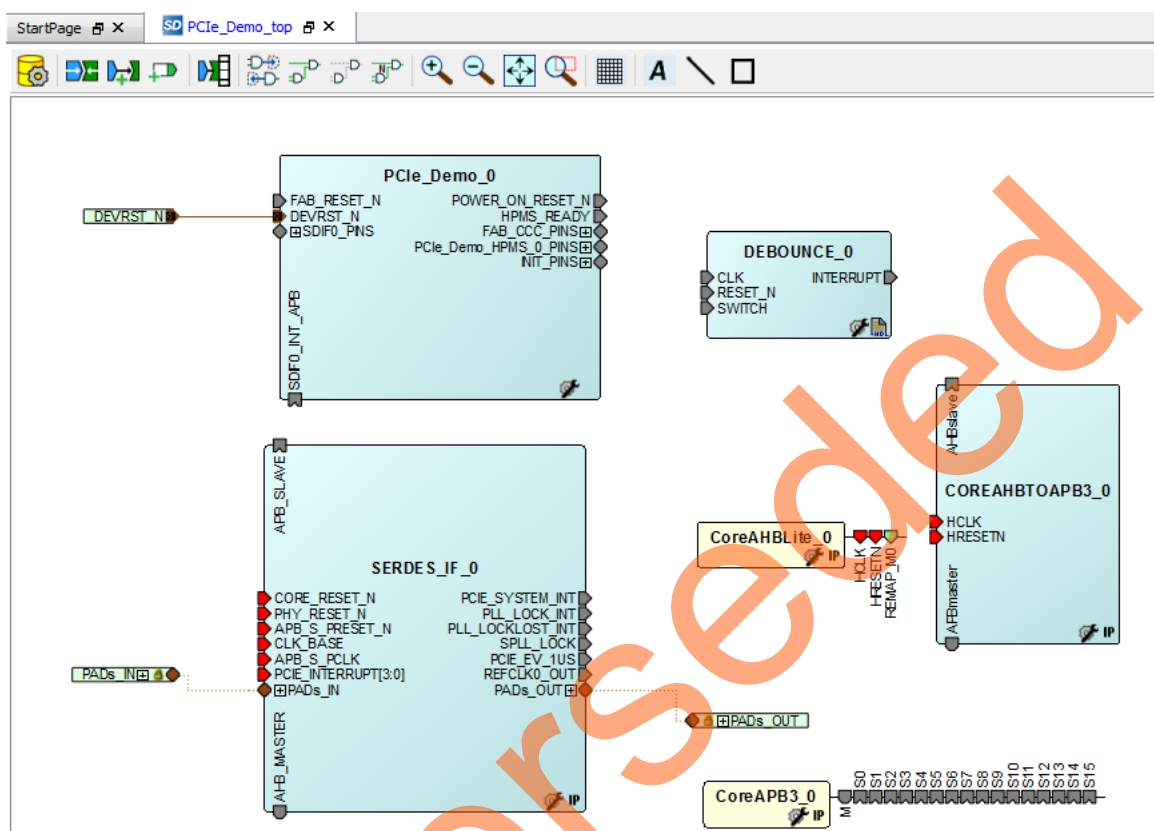

Figure 16 • CoreAHBLite, CoreAHBtoAPB3, and CoreAPB3 Bus Interfaces in the PCIe_Demo_top SmartDesign Canvas
1. Drag CoreAHBLite, CoreAHBtoAPB3, and CoreAPB3 Bus interfaces into the PCIe_Demo_top SmartDesign canvas. If the component appears shadowed in the **Vault**, right-click the name and select download. Figure 16 shows the Libero top-level design with bus interfaces.